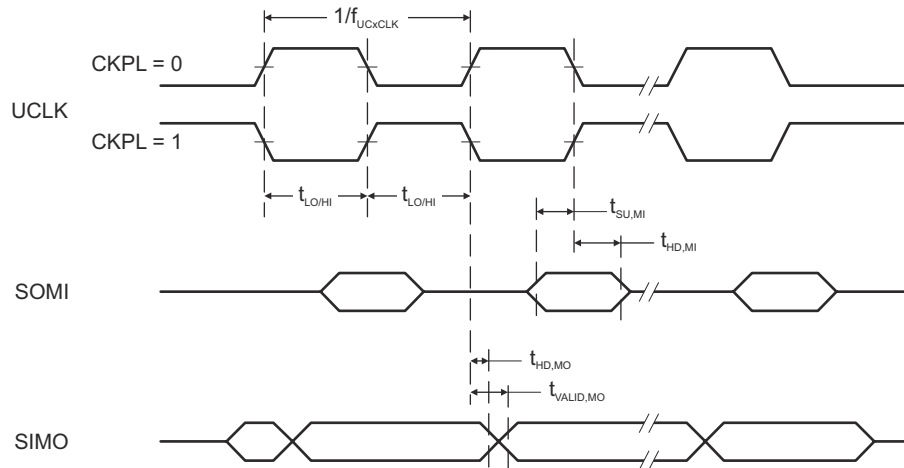

FIG 7-12. SPI Master Mode, CKPH = 0
- (2) Specifies the time to drive the next valid data to the SIMO output after the output changing UCLK clock edge. See the timing diagrams in FIG 7-12 and FIG 7-13.
- (3) Specifies how long data on the SIMO output is valid after the output changing UCLK clock edge. Negative values indicate that the data on the SIMO output can become invalid before the output changing clock edge observed on UCLK. See the timing diagrams in FIG 7-12 and FIG 7-13.